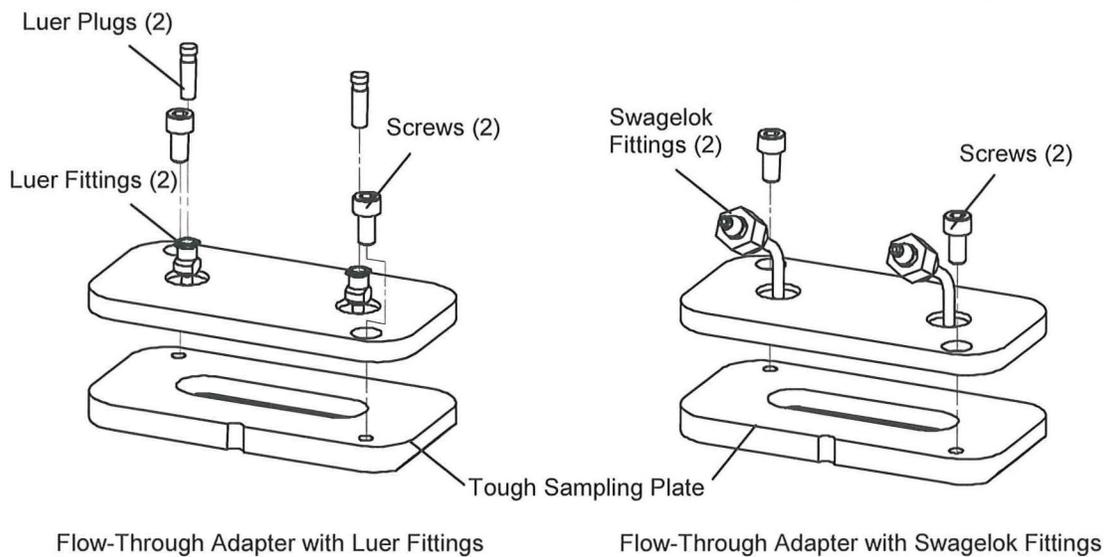

Figure 11 • Installing the Flow-Through Adapter on the Trough
- Using the supplied 5/32" ball driver and screws secure the adapter to the sampling plate (see Figure 11).